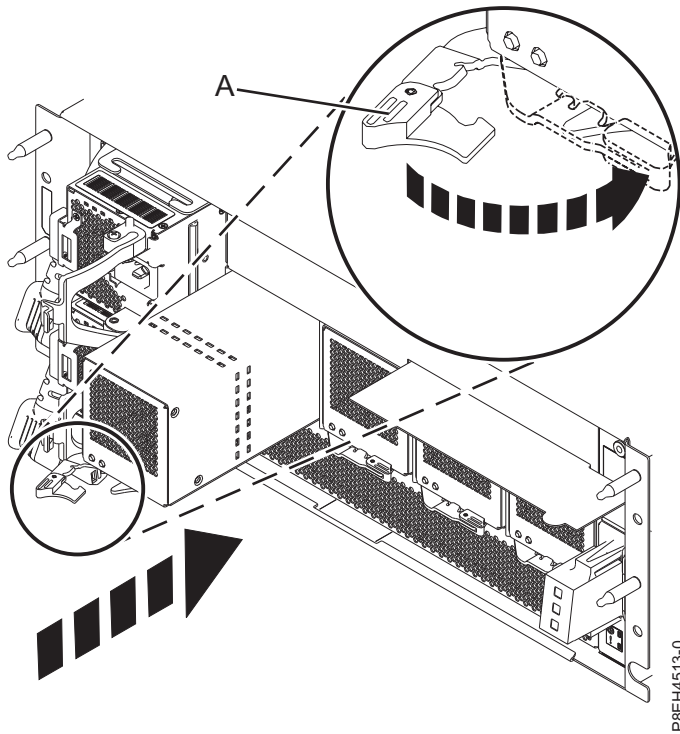

Figure 24. Replacing the fan in the EMX0 PCIe3 expansion drawer
16. Using your hand to support the bottom of the fan, align the fan with the fan slot and slide it into the bay. See Figure 24. Ensure that the fan is fully seated in the bay.
17. Rotate the fan handle **(A)** in the direction shown, and then press the fan handle until the latch locks in place. See Figure 24.